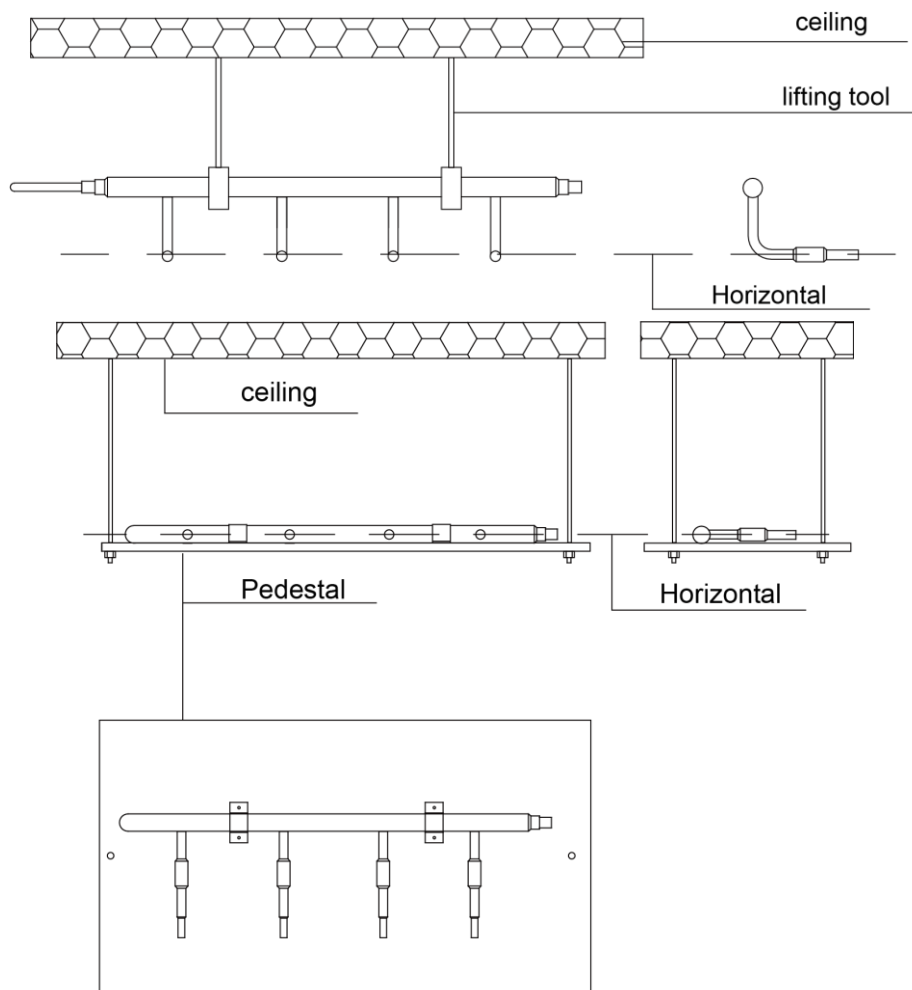

Fig.32
(4) Suspend the header to the ceiling, and be sure to install the T-type manifold so that the outlet pipes are horizontal at the lower side. See Fig.32.